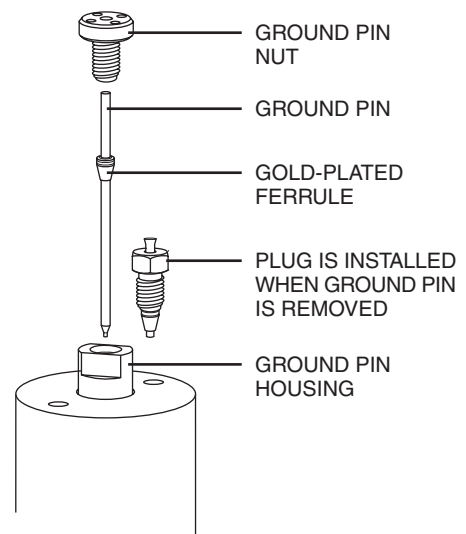

Figure 3: Remove the ground pin and install the plug
6. Remove the ground pin from the housing by lifting it straight up. **(Figure 3)**